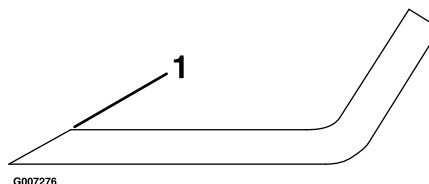

Figure 52
1. Use a file to sharpen the cutting edge at both ends of the blade (Figure 52). Maintain the original angle. The blade retains its balance if the same amount of material is removed from both cutting edges.